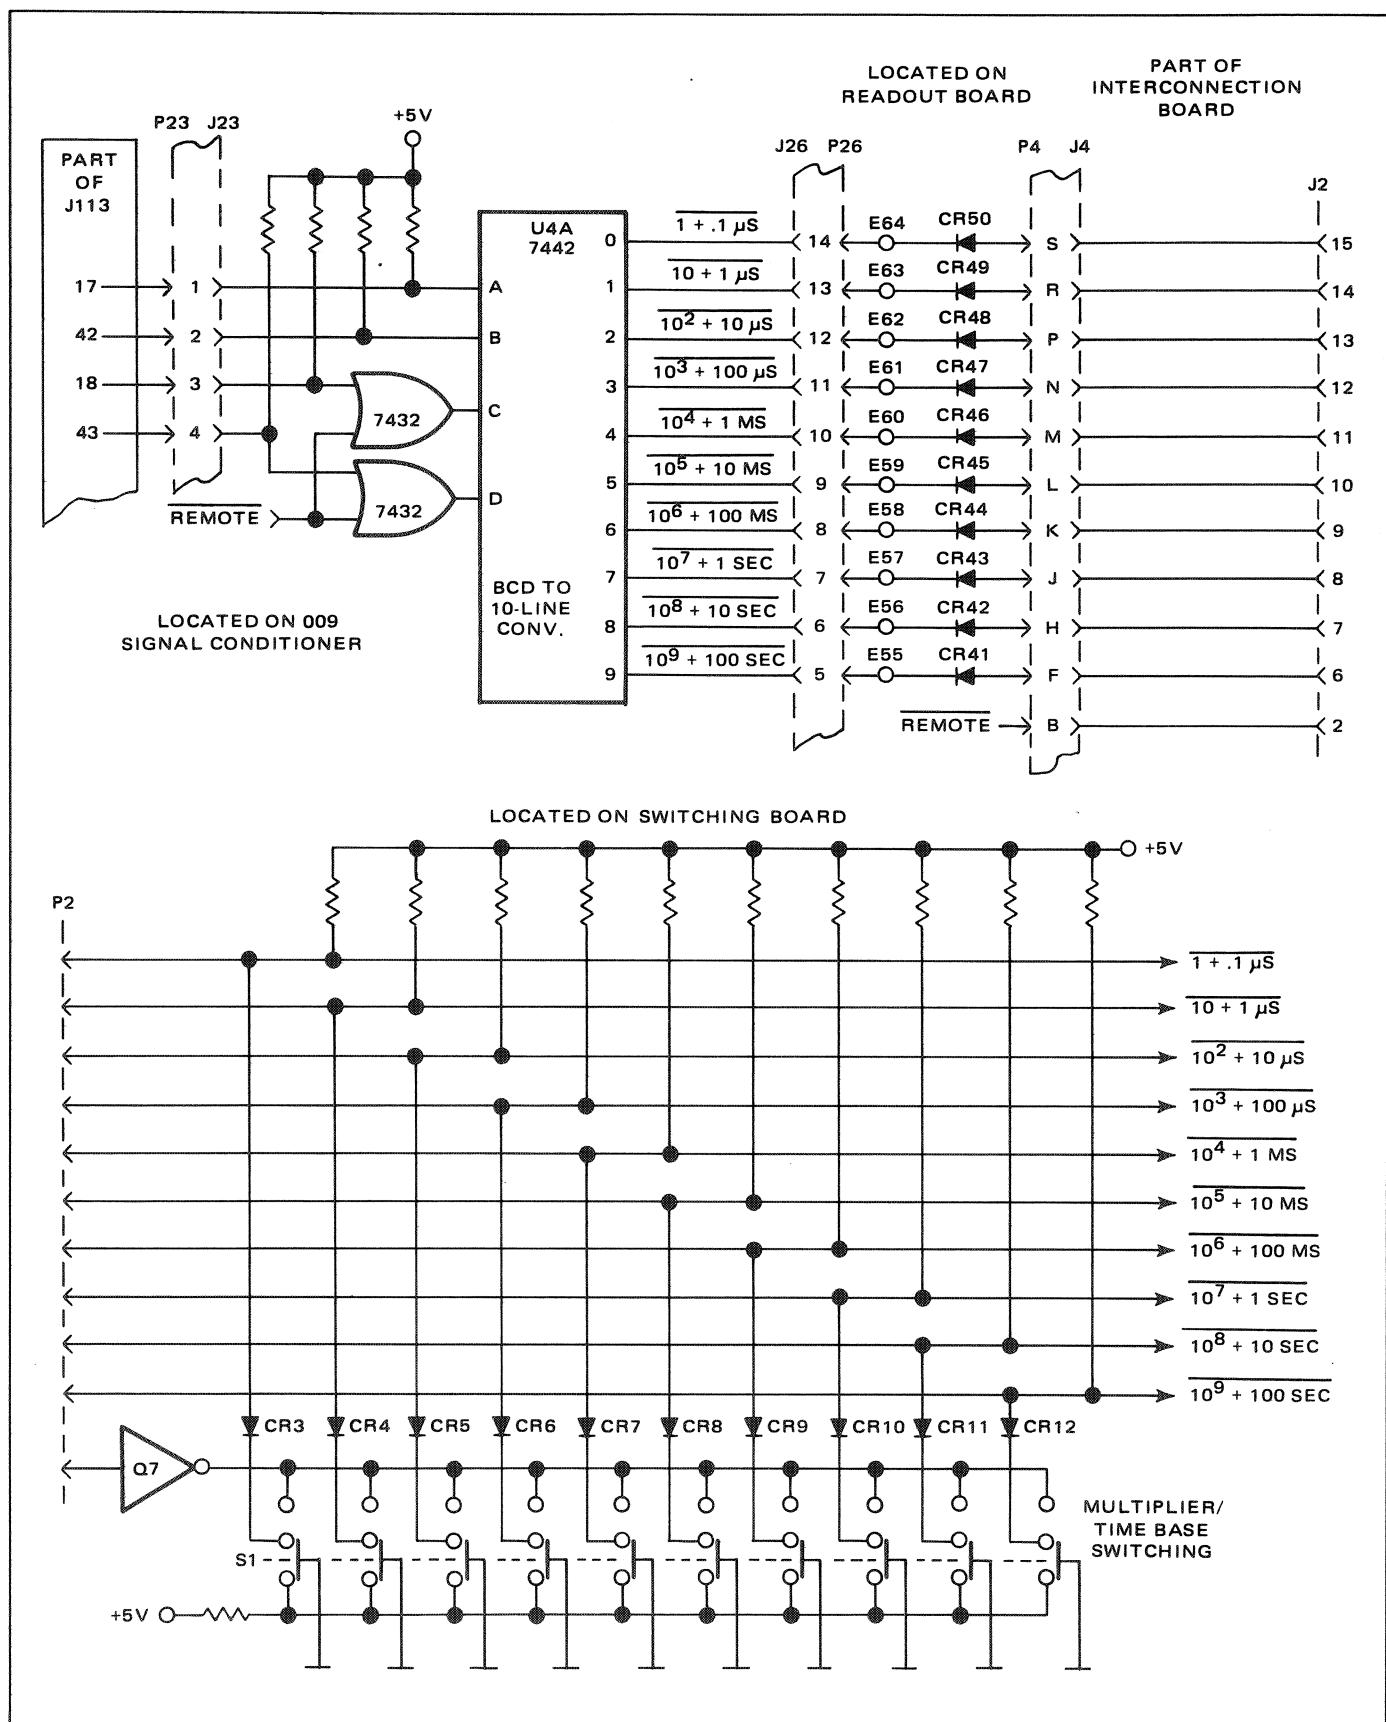

Figure 3.9 - Remote Multiplier/Time Base Decode (8010B, 8030B)
3.38 As shown in figure 3.9 the remote BCD input is converted to 10-line by U4A and routed to the switching board. With remote selected, the REMOTE line is at logic 0. The two 'OR' gates (7432) are not affected but switch S1 is disabled (the logic 0 of the REMOTE is inverted to logic 1 by Q7, and S1 can not pull down any of the control lines to logic 0). The BCD input is converted to its numeric equivalent and appears as a logic 0 at the specified output terminal.